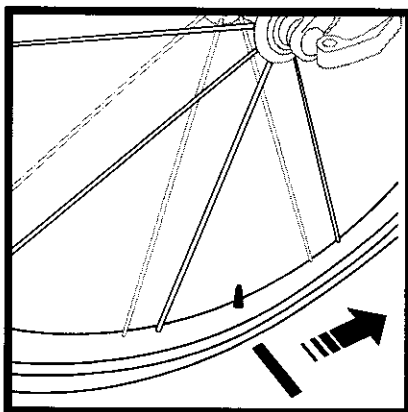

Fig. 23
2. Mark the ground directly under the valve stem with chalk or a piece of tape (Fig. 23).